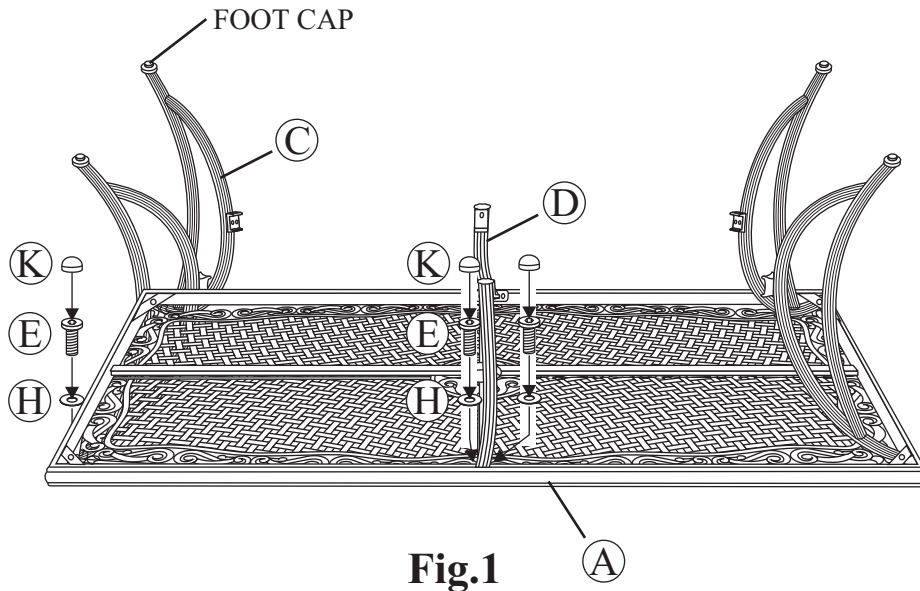

Fig.1
**1** **Important: We recommend 2 people work together to assemble the chair.** Note the arrow labels on the "U" bar and the rocker assembly. Also note the horseshoe shape of the rocker plate. Point the open end of the horseshoe away from you. The arrows on the rocker assembly should be pointing towards you. Set the chair frame on the rocker assembly with front of the seat facing you and the arrows on the "U" bar pointing towards you as shown in **Figure 1**. This is very important for a safe, balanced rocking motion. **If chair frame has been properly positioned on the rocker assembly, all arrows on the "U" bar and rocker assembly will be pointing in the same direction.**
- 1 Place the table top upside down on a flat, non-abrasive surface. Attach table leg to table top by using a 1/4"x20 mm bolt and a washer as shown in **Fig.1**. Place the leg beneath the table rim corner bracket. Guide the bolt through the hole in the table rim and into the pre-drilled hole in the table leg. **Hand tighten only**. Repeat for the other three legs. Attach the topside support to the table top by using two 1/4"x20 mm bolts and washers as shown in **Fig.1**. **Hand tighten only**. Repeat for the opposite side.